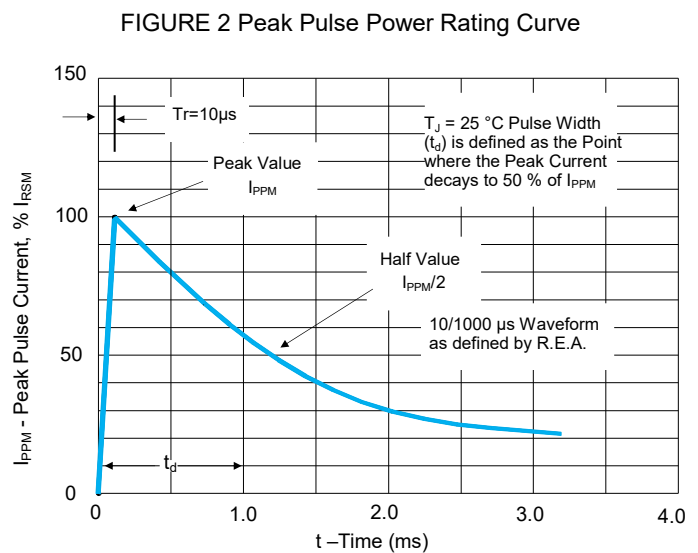

FIGURE 4 Pulse Waveform
1. Non-repetitive current pulse, per Fig. 4 and derated above T_J (initial)=25 $^\circ\text{C}$ per Fig. 3.